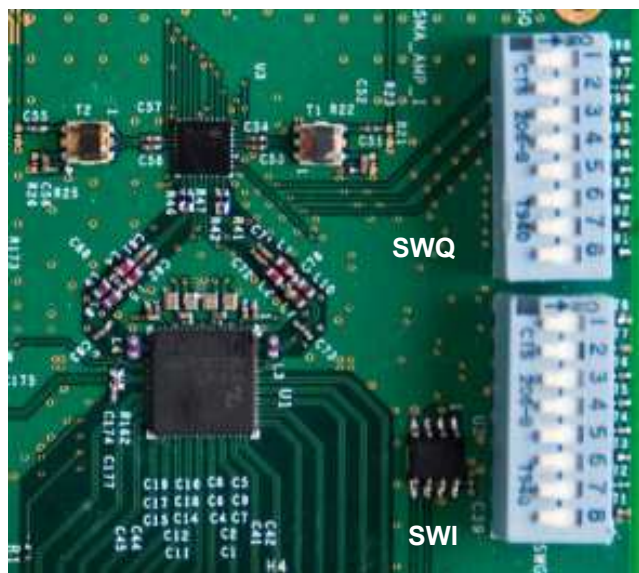

Figure 20: Orientation of the DIP switches that control the DVGA gain
- Populate SWI and SWQ with 8-position, 10 mil spaced DIP switches. Note the orientation of the switch ON position in Figure 20.